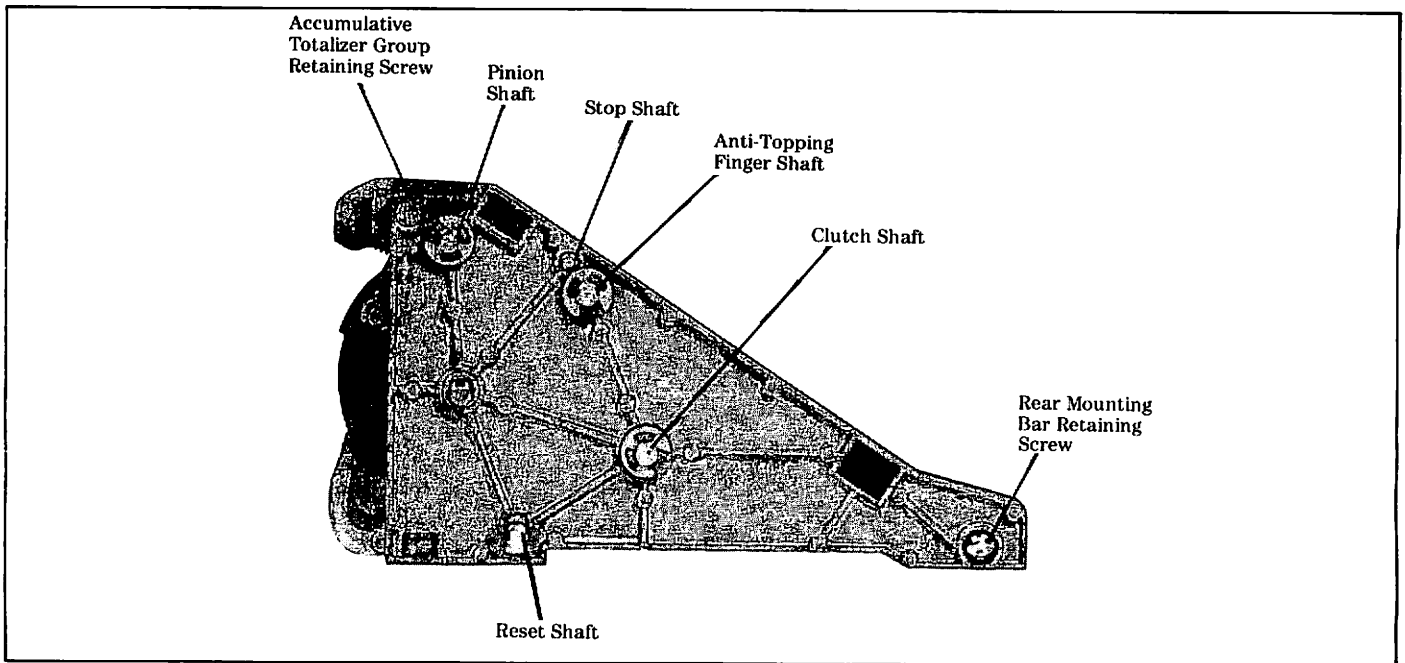

Figure 7. Right-Hand Side Plate.
2. Remove retaining rings and washers securing the pinion, reset, anti-topping and clutch shafts to the right-hand side plate (Figure 7). Remove screws and lockwasher securing the totalizer group and rear mounting bar from right-hand side plate.
- a. Remove the screws securing the totalizer group to the left-hand and right-hand side plates. See Figures 7 and 8.